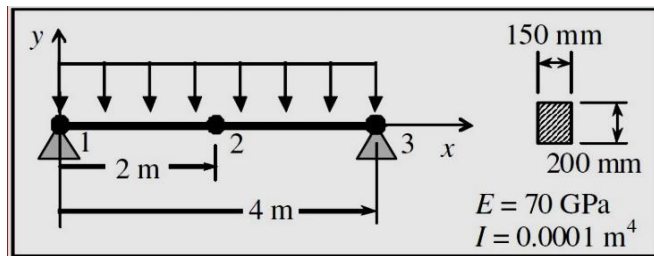

Figure Q2b
c) For the beam shown in Figure Q2b, the nodal displacements have been calculated in meters and radians as: